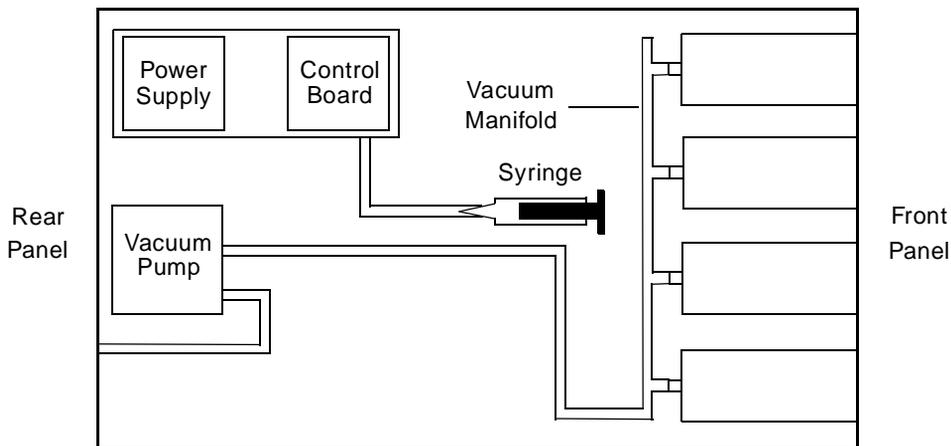

Figure 5-3 Testing the Vacuum Sensor
4. Disconnect the sensor tubing at the vacuum manifold as shown in Figure 5-3.